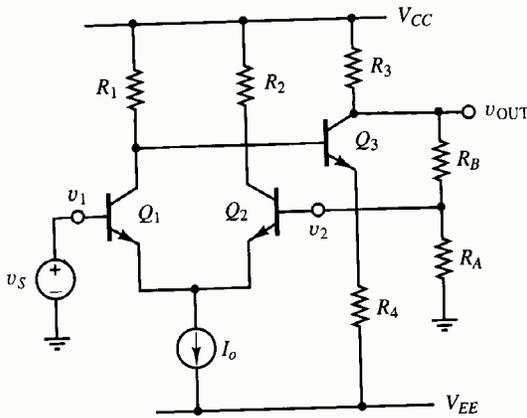

Fig. P10.51
10.51   The differential amplifier of Fig. P10.51 incorporates series/shunt feedback.
10.52   Design a modification to the circuit of Fig. P10.51 so that the constraint $R_B \gg R_3$ is not needed. This design change will enable the conditions $r_{in-\beta} \gg r_{out}$ and $r_{out-\beta} \ll r_{in}$ to be more closely met.